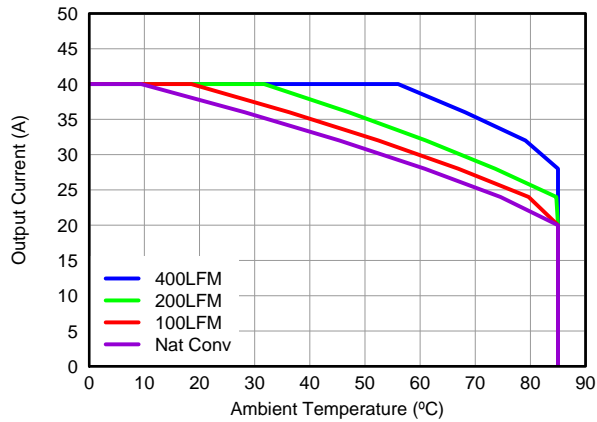
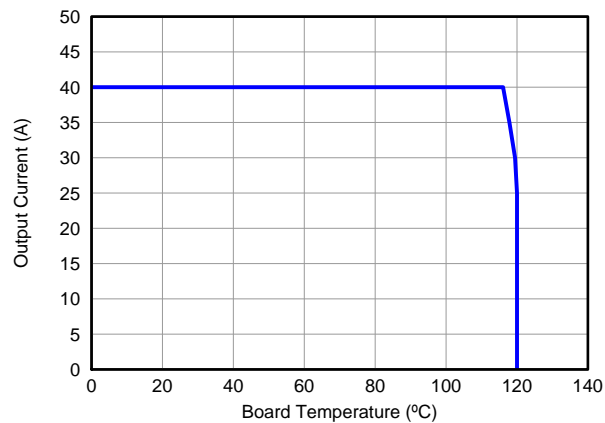

Figure 3. Safe Operating Area – PCB Vertical Mount(1)
Figure 5. Typical Safe Operating Area(1)
The SOA curves in the CSD87353Q5D data sheet provides guidance on the temperature boundaries within an operating system by incorporating the thermal resistance and system power loss. Figure 3 to Figure 5 outline the temperature and airflow conditions required for a given load current. The area under the curve dictates the safe operating area. All the curves are based on measurements made on a PCB design with dimensions of 4" (W) x 3.5" (L) x 0.062" (T) and 6 copper layers of 1 oz. copper thickness